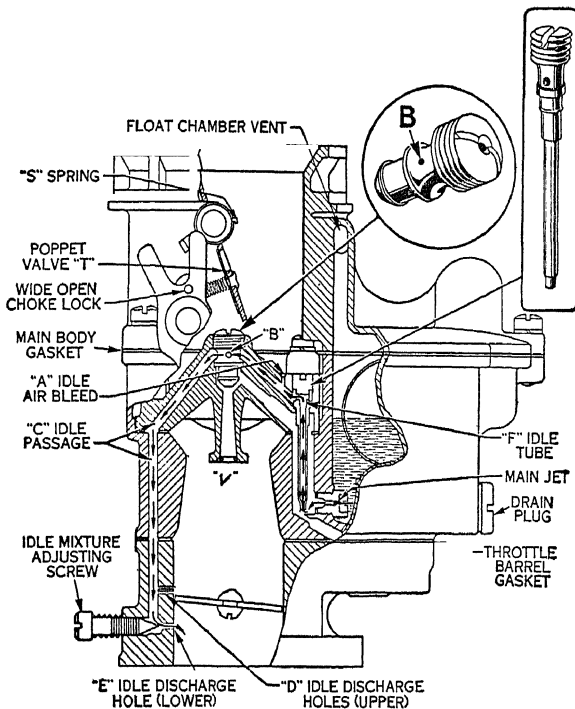
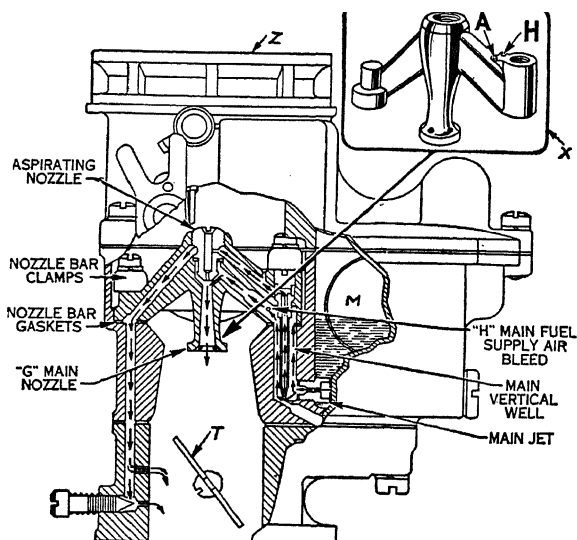
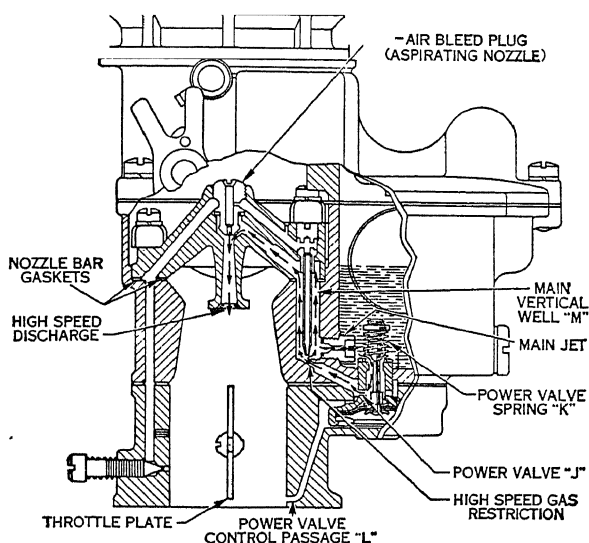

Fig. 1. Ford-Mercury-Zephyr Idle Fuel Supply
Fig. 2. Ford-Mercury-Zephyr Main Fuel Supply
Fig. 3. Power Fuel Supply
plain tube type. The jet and venturi sizes, as well as the float level, vary for the different models. The fuel level for the Ford type is  $2\frac{3}{32}$  inch maximum and  $2\frac{1}{32}$  inch minimum. The level for the Lincoln-Zephyr is  $2\frac{1}{32}$  inch maximum and  $1\frac{9}{32}$  inch minimum. The general design and construction of the carburetor is illustrated in Figs. 1 to 4, inclusive.
in a removable nozzle rail or bar which is indicated at the inset *X* in Fig. 2. As in all carburetors, the float *M* in the float chamber, Fig. 2, controls the level of the gasoline therein. Air entering the top of the carburetor at *Z* blows down past the nozzle bar and the main discharge nozzle, which is located at the smallest portion of the venturi marked *V* in Fig. 1. The amount of air flowing is controlled by means of the throttle plate marked *T*, Fig. 2. The reader
**Choke.** In the case of an initial start with the engine cold, the choke button is pulled out on the dash, which results in the throttle valve being automatically opened to the correct position for starting. It is not necessary for the driver to pull out the throttle button, or to pump the accelerator when starting. With full choke, the valve is held in a locked position by the control lever. If the choke is held in this position after the engine starts firing, a small poppet valve or air bleeder *T*, Fig. 1, opens to allow air to pass. This is so designed as to produce a certain amount of noise to attract the driver's attention to the fact that the choke is in closed position, and the choke button should be returned to normal operating position. The torsion spring *S* tends to close the choke valve when part-choke position is selected by the driver. As the engine speeds up, the in-rushing air tends to force the valve open and thus compensate for the increased speed. While this helps to provide smooth operation in part-choke position, the choke button should be returned to normal position just as quickly as possible.
**Idle Fuel Supply.** Following the arrows in Fig. 1, it will be noted that the fuel flows from the carburetor bowl through the main metering jet and into the idle tube *F*. An idle air bleed *A*, Fig. 1 and inset, introduces air into the fuel. An additional small amount of air is bled in by the hole *B* in the aspirating nozzle, inset, Fig. 1. The idle mixture of gasoline and air goes around the aspirating nozzle *B* and travels down the idle passages *C* to the idle discharge holes *D* and *E*, as shown in Figs. 1 and 2. With the engine set to rotate at a speed of 350 revolutions per minute, the mixture will be discharged out of the lower hole *E* only, and as the throttle plate opens and the speed is increased, the upper hole *D* will start discharging at about 450 revolutions per minute. These upper holes will start discharging very gradually from about 450 revolutions per minute, reach their maximum about 750 revolutions per minute, and taper off to about 1250 revolutions per minute of the engine. They thus become less effective as the main nozzle starts to discharge.
**Main Fuel Supply.** As the speed of the engine reaches approximately 900 revolutions per minute, the main nozzle *G*, Fig. 2, starts to deliver fuel which is mixed with the fuel being supplied by the idle system. Between 900 revolutions per minute and 1250 revolutions per minute, there is a blending of the mixtures coming from the idle system and the main metering system. The power valve *J*, Fig. 3, remains closed during this range, and up to approximately 3800 r.p.m., except when under heavy load, which would cause the manifold vacuum to drop. The path of the fuel during this range is through the main jet, as shown in Fig. 2, up through the main vertical well, then up and around the idle tube. The main supply of fuel is emulsified by air entering at the main fuel supply air bleed *H*, which lightens the fuel and makes the mixture more responsive to sensitive throttle changes. A further aspiration is supplied by the aspirating nozzle as the fuel starts down the main nozzle *G*. A nozzle bar, inset *X*, Fig. 2, one for each carburetor barrel is held in place by clamps and the channels sealed against
has been opened to a point which will allow the car to operate on the road with an engine speed of approximately 3800 r.p.m., the power valve will open, due to the spring pressure overcoming the vacuum within the carburetor. This occurs at approximately  $8\frac{1}{2}$  to 9 inches of mercury. The same action occurs when climbing hills or in any other operation where the greatest amount of power is required and when the throttle plate is opened wide. When the spring actuated valve has opened, whether on level road or on hills, fuel will flow into the power valve and through the fuel passages or channels and through the high speed gas restrictions into the center or main vertical well *M*, as shown by the arrows in Fig. 3. Thus the additional fuel